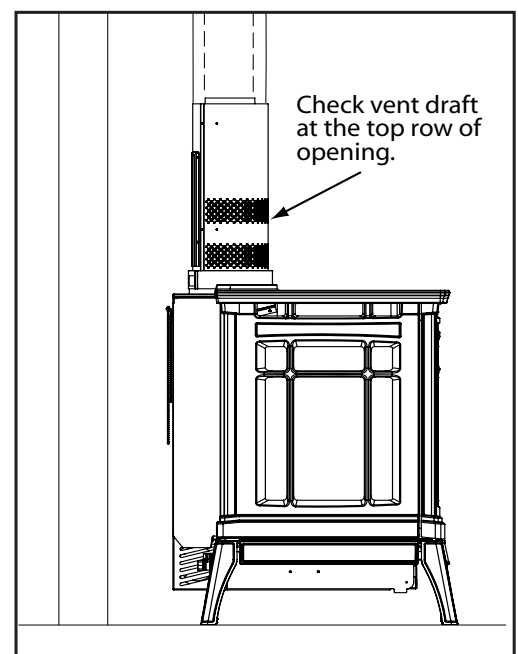

Figure 47: Draft test place.
4. After a minimum of 10 minutes operation, test the chimney draft with a smoke match at the top row of the pattern to confirm that there is adequate draft or 'pull' at the openings around the body of the Drafhhood Adaptor, as shown in Figure 47.